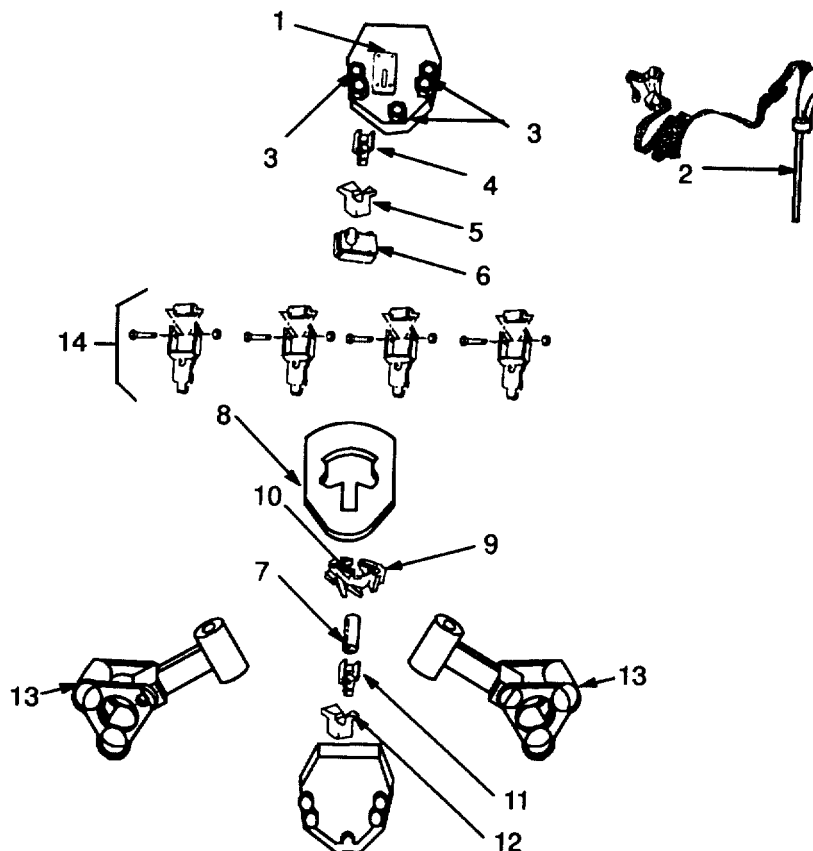

Figure 2-11. Release, Cargo Parachute, M-1 Repair .
- a. Place the release (Figure 2-11) on a table or other suitable flat surface with the side plate containing the arming wire guide block (1) facing up.
- b. If the arming wire (2) is installed, pull the wire clear of the guide block and allow the delay release timer to run down.
- c. Remove the five nuts (3) securing the side plate to the release and lift the face side plate from the release.
- d. Remove the exposed toggle (4), toggle lockslide (5), and the delay release timer (6) from the release timer.
- e. Remove the toggle shaft (7) and the upper suspension link (8) with the retaining clamp (9) from the release.
- f. Remove the retaining damp (9) with the retaining damp pin (10) from within the upper suspension link by sliding the damp down and out through the opening in the link.
- g. Remove the remaining toggle (11) and toggle lockslide (12) from the release back side plate.
- h. Lift each of the two lower suspension links (13) from the points of mounting on the 5/8-inch bolts.
- j. Disassemble each of the lower suspension links (13) by removing the three 5/8-inch nuts, the three 5/8-inch bolts, the load suspension spacers, and the two load suspension links.
- k. As required, disassemble each parachute release connector (14) by removing the 9/16-inch nut, bolt, and sleeve spacer from the upper end of the connector.